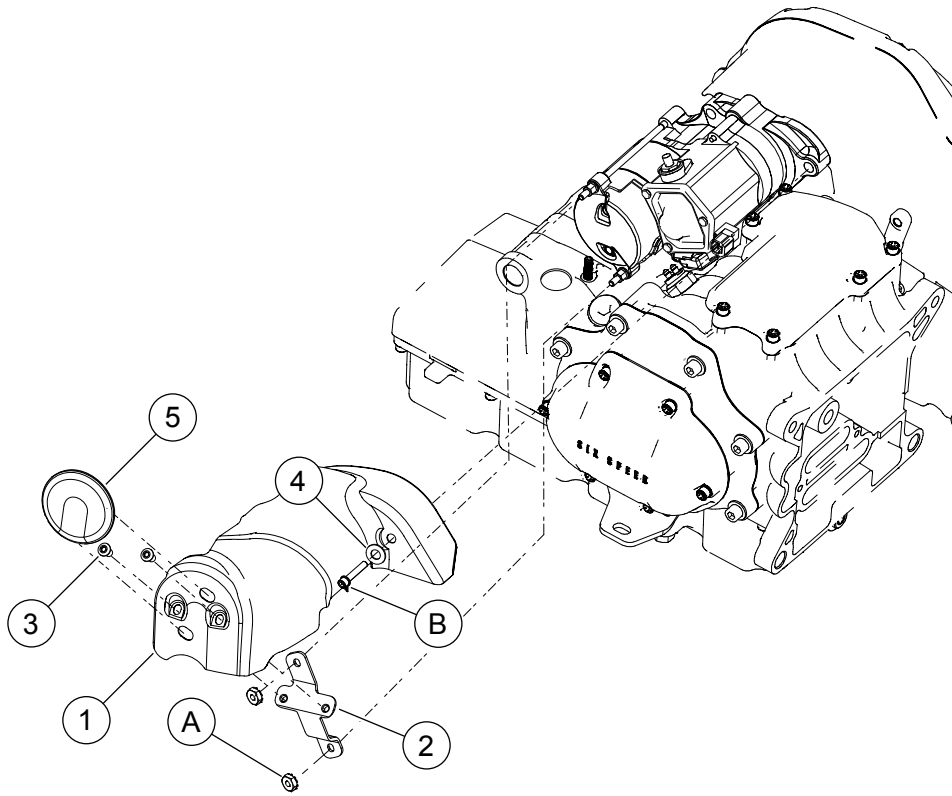

Figure 4. Service Parts: Touring Starter Cover
See Figure 4 and Table 1.
5. Remove starter assembly forward screw. Save screw (3).
6. Remove dipstick (4).
7. See Figure 4 and Table 1. Mount the new cover mounting bracket (2) with the nuts (A) removed in Step 1. Position the bracket in the center of its slotted holes. Tighten nuts to 4.5–6.8 N·m (40–60 in-lbs).
8. Position the starter cover (1) over the starter/solenoid assembly.
9. Fasten the left side of the cover using the washer (4) and the forward screw (B), previously removed in Step 5. Apply Loctite 243 threadlocker and sealant (blue) to screw and and tighten screw to 33.9–36.6 N·m (25–27 ft-lbs).
10. Mount the right side of the cover to the bracket previously installed using screws (3). If the cover and bracket holes are misaligned, remove the cover and adjust the mounting bracket up or down as required. Tighten screws to 5.7–7.9 N·m (50–70 in-lbs).
11. Remove the adhesive backing from the dual lock strip on the inside of the starter cover end trim (5). Position the small pry notch in the end trim at approximately the 7:30 o'clock position and snap the trim into the starter cover. Press firmly on the center of the end trim to adhere the dual lock strip to the cover.